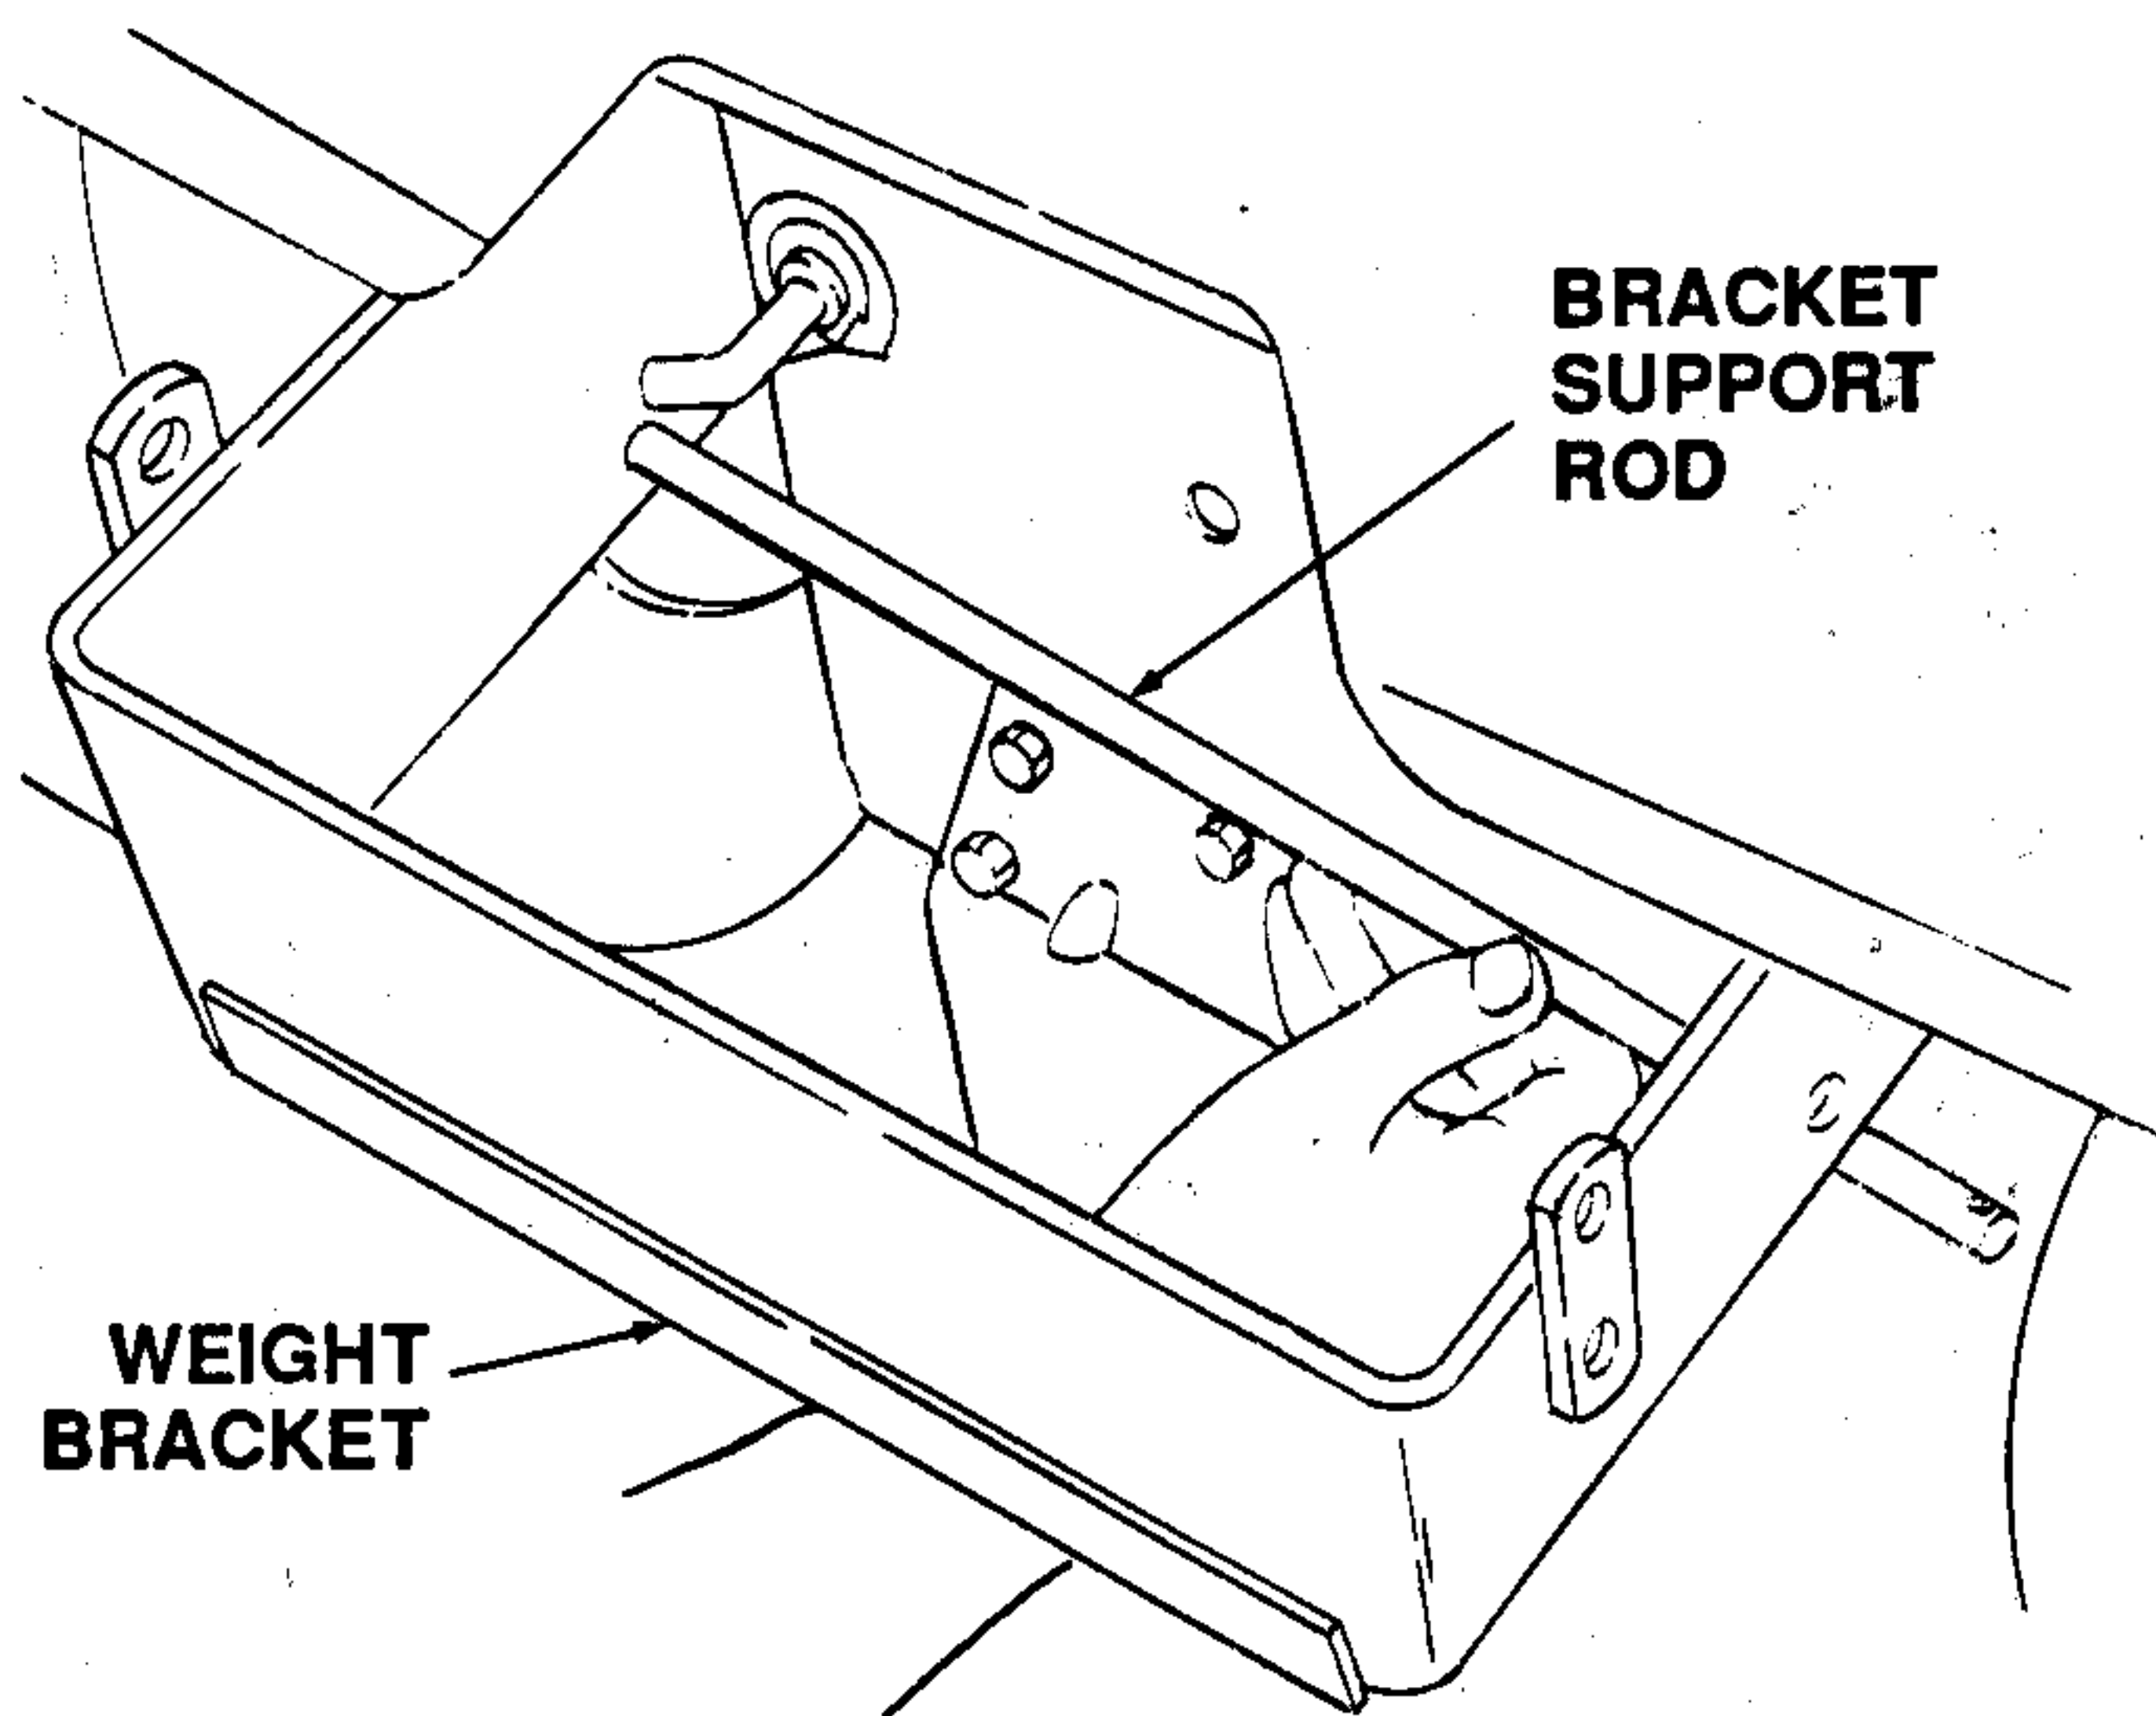

Figure 5
- Slide bracket support rod into left hole in weight bracket from the inside as shown in Figure 5 and then into hole on right side of bracket.